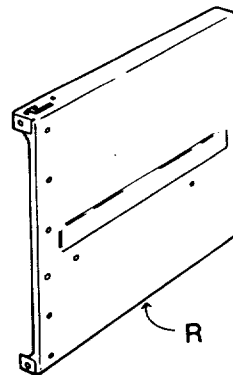

Fig. 28
1. Find the *right* and *left side panels*. Look carefully to find the "R" and "L" stamped in the metal near the center of the rear edges (opposite the J-shaped slots). These stamps are the easiest way to tell the *right panel* from the *left*. (Figure 28)